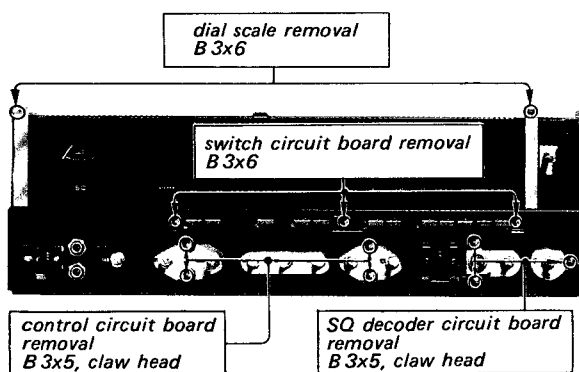

Fig. 2-7. Dial scale and circuit board removal
2. Remove the two screws (B 3x6) shown in Fig. 2-7.
1. Remove the three claw head screws (B 3x5) shown in Fig. 2-7.
Remove the four claw head screws (B 3x5) shown in Fig. 2-7.
2. Remove the three screws (B 3x6) shown in Fig. 2-7.